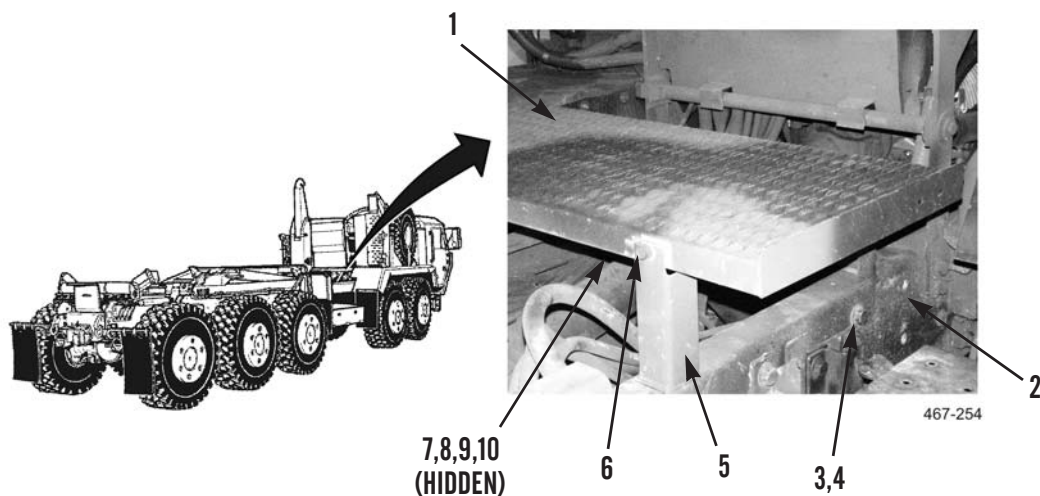

Figure 18. Operator Platform Removal.
1. Remove four nuts (Figure 18, Item 10), washers (Figure 18, Item 9), springs (Figure 18, Item 8), washers (Figure 18, Item 7), bolts (Figure 18, Item 6) and platform (Figure 18, Item 1), from platform stands (Figure 18, Item 5).
2. Remove four nuts (Figure 18, Item 3), bolts (Figure 18, Item 4) and two platform stands (Figure 18, Item 5) from right and left frame (Figure 18, Item 2). Set aside bolts and nuts for reinstallation.